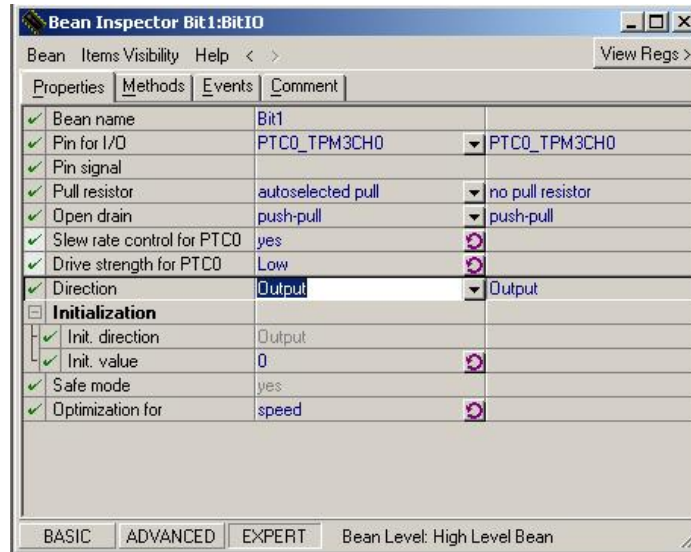

Figure 22. Bean Inspector window - BitIO configuration on LED_Blink project
9. Figure 22 shows the Bean Inspector window for BitIO Bean with the properties values for the LED Blink project. In the Bean Inspector window configure the following: